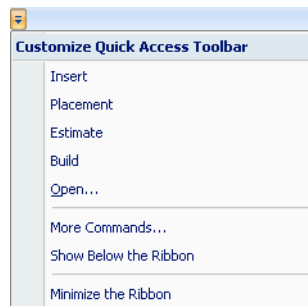

Figure 5-82: *Customize Quick Access Toolbar* menu
- From the *Customize Quick Access Toolbar* menu (see figure 5-82 on page 59), select *More Commands*.